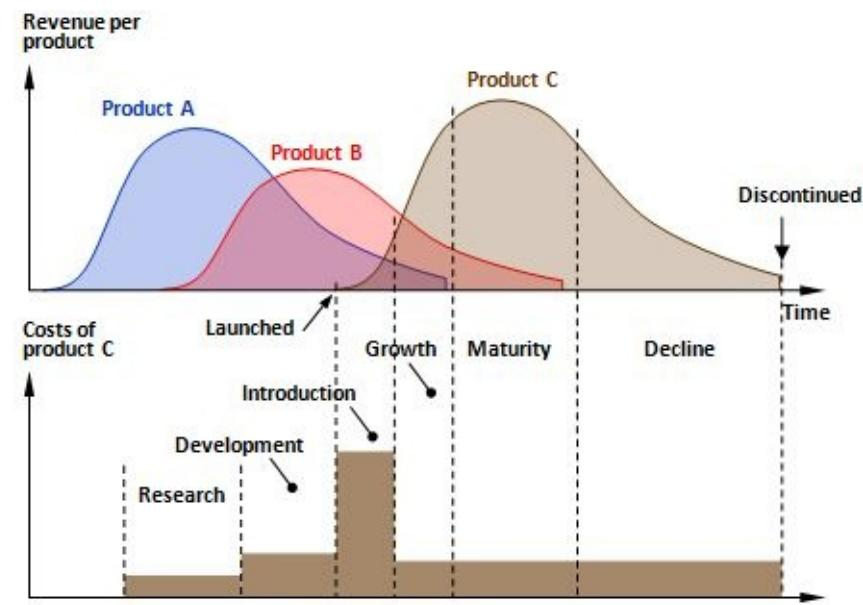

Figure 6.24 The product lifecycle and associated costs
- While in market, all products have the same base revenue over time curve (see Figure 6.24), and the actual revenue equals base times the "success factor".